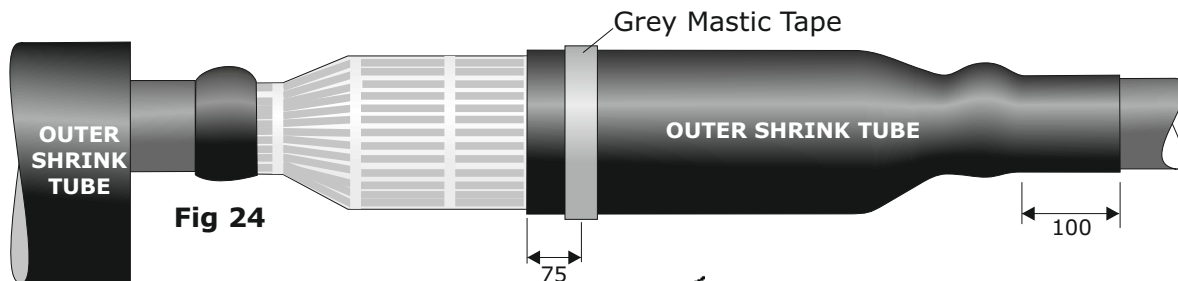

Fig 24
32. Apply a band of the grey mastic tape approx. 75mm from the end of the tube as shown in Fig 24.